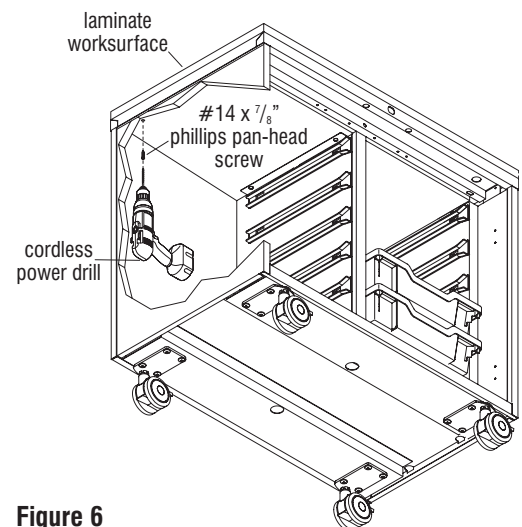

Figure 6
8. Assure that the laminate top is properly aligned on the storage unit. From inside the storage unit at the pilot holes, use a power drill with #3 Phillips tip and #14 x $\frac{7}{8}$ " Phillips Pan Head screw to secure the storage unit top to the laminate top at each corner (Figure 6).